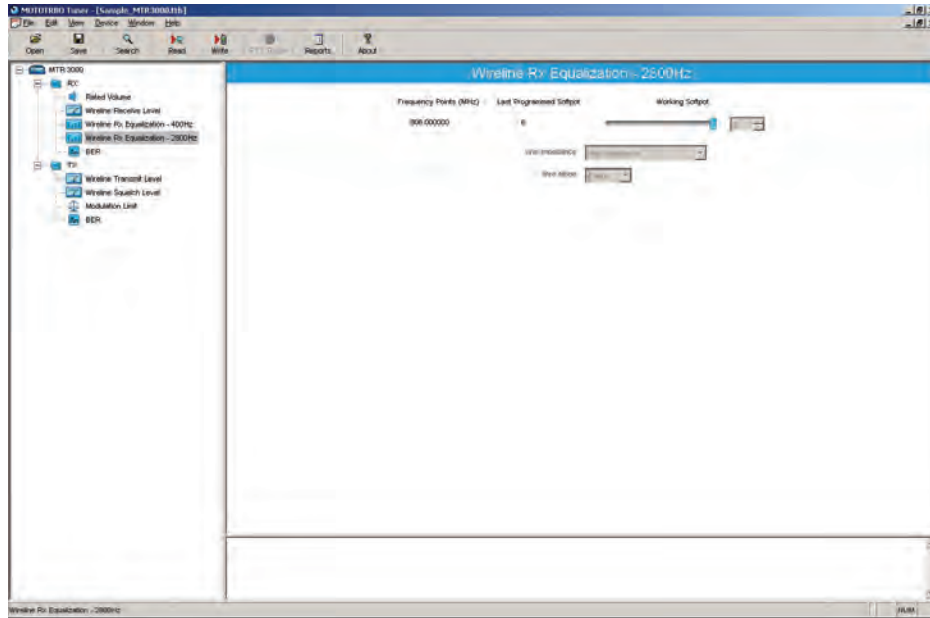

Figure 13-7 Rx Menu tree (Wireline Rx Equalization – 2800 Hz)
4. Select "Wireline Rx Equalization – 2800 Hz" under the Rx menu in the tree view (Refer to Figure 13-7).